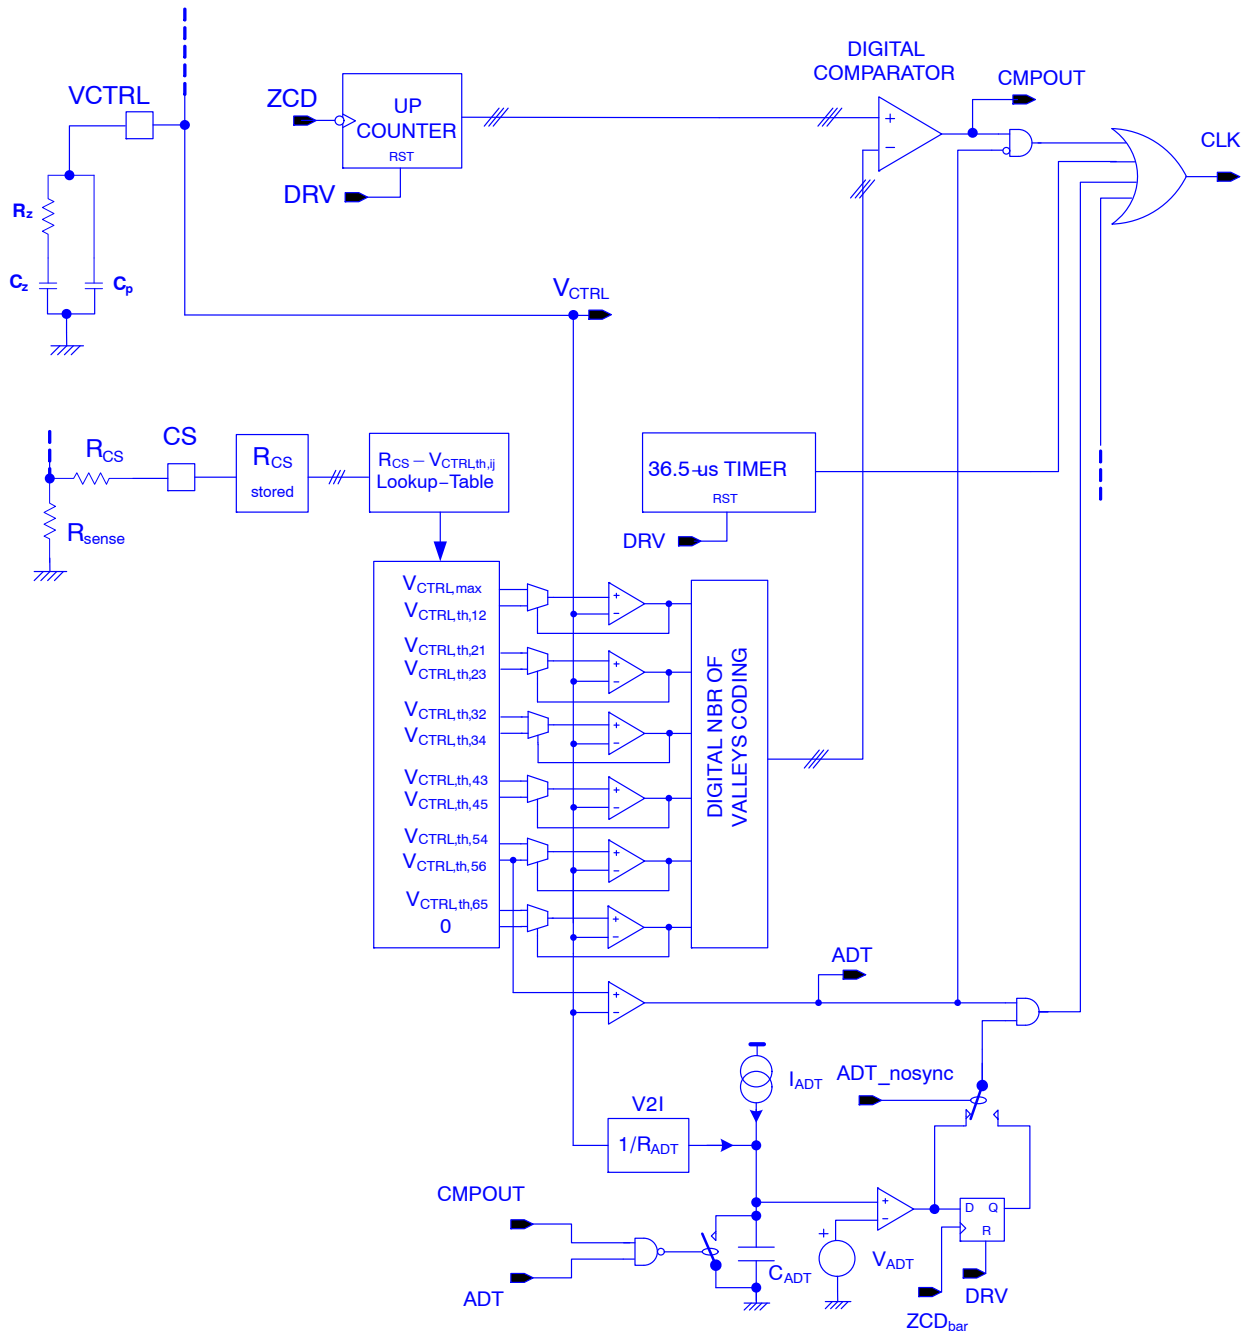
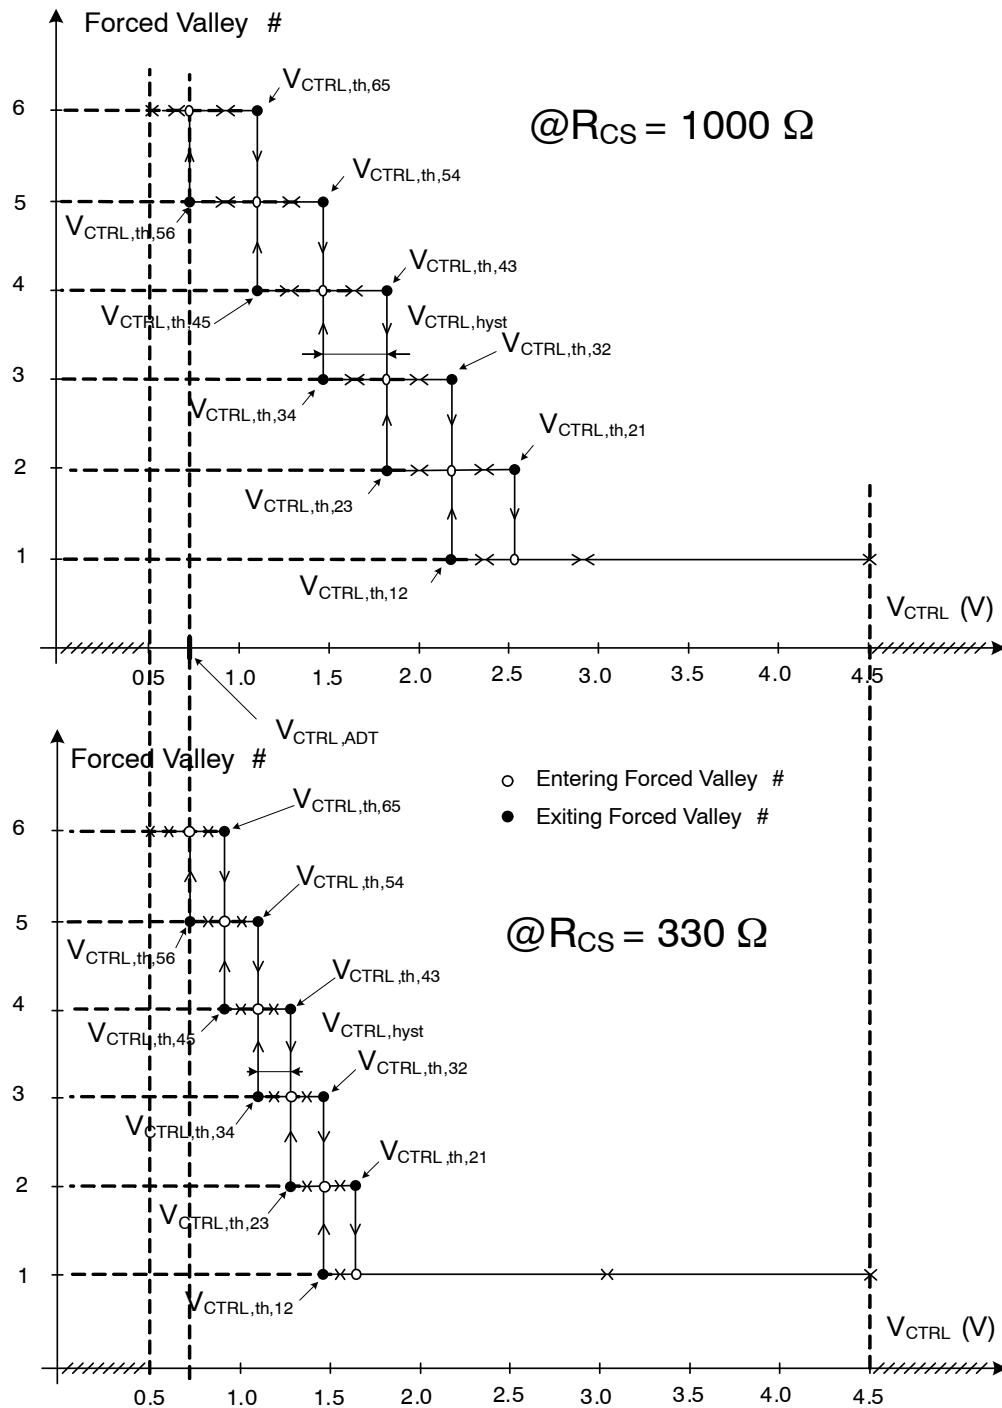

Figure 4. Valley Count Turn-on Block Diagram
Figure 7. Forced Valley Number versus VCTRL Pin Voltage For a Two Different RCS Values of the Mandatory List {150 Ω, 330 Ω, 620 Ω, 1000 Ω}
- **Valley Count Frequency Fold-back:** NCL2801 is designed to drive PFC boost stages in so-called Valley Count Frequency Fold-back (*VCFF*). In high load current condition, the circuit classically operates in *Critical conduction Mode (CrM)* also called 1st valley switching. When output power is decreasing, if a threshold is reached (determined by sensing the CS pin impedance during initial power up), a dead time based on a number of valleys is added. The number of valleys will increase, each time a dead time window (based on  $V_{CTRL}$  value) is entered. By construction, this counting process will avoid valley hopping during the mains voltage period. If the output power continues decreasing and the 6th valley is reached, extra “analog” dead time will be added based on a voltage ramp (see Figure 4). On-time will be synchronized with a valley. A timer will clamp the total switching period to not exceed 36.5  $\mu$ s (the switching frequency will never go under about 27.4 kHz). The switching frequency depends on output voltage, input voltage, and boost inductor value, and increases as the load power increases. Hysteresis is added to the  $V_{CTRL}$  control windows to avoid valley hopping during steady state conditions. *VCFF* maximizes the efficiency at both nominal and light load. Similarly to *FCCrM* controllers, an internal circuitry allows near-unity power factor even when the switching frequency is reduced.
valley number count up to 6 valleys (the number of valleys between end of inductor demagnetization and power MOSFET turn-on determines the dead time value). After counting is done, the power MOSFET turns on at drain voltage valley. When 6th valley is reached and VCTRL voltage stays under 0.77 V, an extra “analog” dead time is added based on a voltage ramp (see Figure 4). The added analog dead time  $t_{ADT}$  is based on 0.77 V minus VCTRL value.  $t_{ADT}$  will be equal to zero when  $(0.5\text{ V} - V_{CTRL}) = 0\text{ V}$  and will increase monotonically versus VCTRL decreases while VCTRL is under the 0.77 V threshold corresponding to  $V_{CTRL,th,56}$ . The analog dead time added  $t_{ADT}$  will equal typically 20  $\mu\text{s}$  when  $V_{CTRL}=0.5\text{ V}$ .
means of counting the falling edges of the ZCD signal until the counter reaches the number of valleys set by the window in which the VCTRL pin voltage is (see Figure 4). The 3-bit counter allows to work “Valley synchronized” up to 6 valleys. When the 6th valley is reached, and VCTRL is lower than 0.770 V ( $V_{CTRL,th,56} = 0.770$  V whatever frequency foldback threshold setting), an additional analog dead time will be added to the 6 valleys dead time and there will be valley synchronization turn-on of the power MOSFET ( $ADT\_nosync = 0$  by default) based on falling edge of ZCD signal. The total dead-time (number of valleys and extra analog dead-time) will not exceed 36.5  $\mu$ s. As a result of this timer the minimum switching frequency will not go under 27.4 kHz.
results from output power decrease. We can also mention looking at Figure 7 and the specified frequency foldback thresholds of Table 7 that  $V_{CTRL,th,56}$  which is the  $V_{CTRL}$  threshold at which we force counting 6 valleys, has always the same value. This threshold is also called  $V_{CTRL,ADT}$  because when  $V_{CTRL}$  pin voltage falls under this threshold, an analog dead-time starts to be added to the dead-time determined by counting 6 valleys. The lower  $V_{CTRL}$  pin voltage goes under  $V_{CTRL,ADT}$  threshold, the more analog dead time is added. An example on how the analog dead time can be added is shown in the circuit of Figure 4 and the correspond power MOSFET drain voltage is shown in Figure 3.